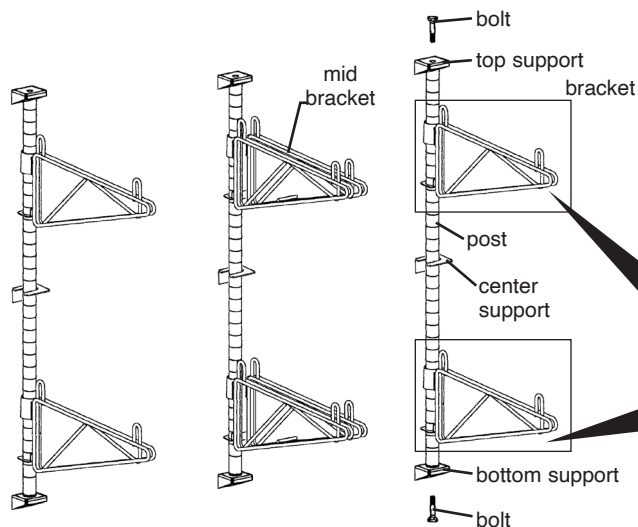

figure 5
- Install post/bracket assemblies to supports using bolts provided (see figure 5). Make sure the post(s) with mid brackets is in the middle.